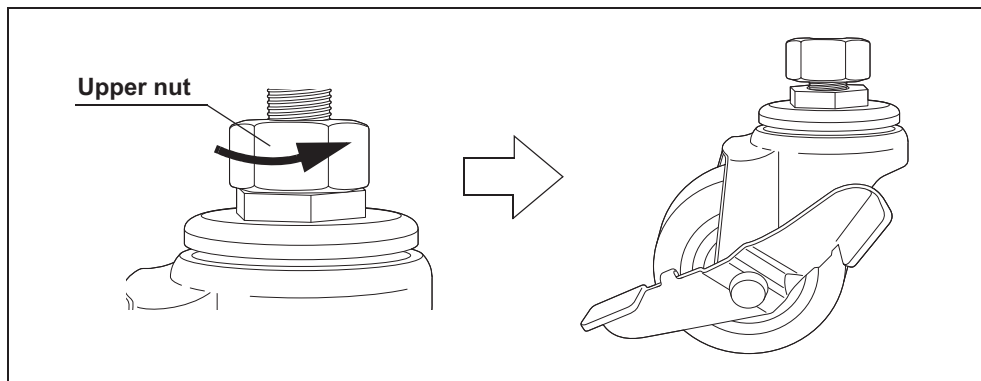

Figure 4.110
- 2 Turn the upper nut on each caster in the direction shown in Figure 4.110 to tighten.